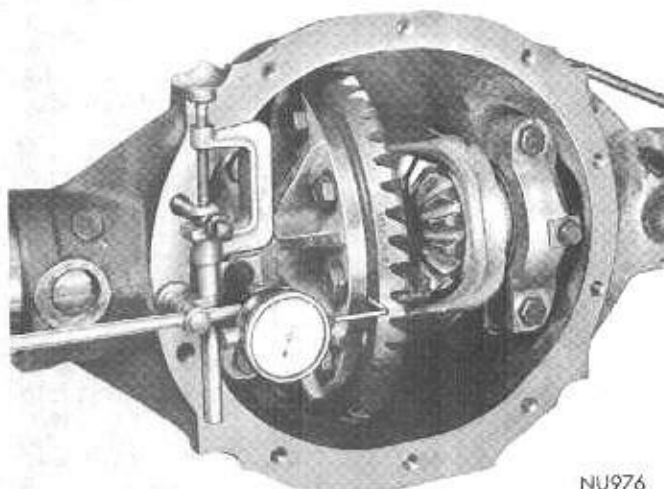

Fig. 9—Measuring Drive Gear Runout
(6) In preparing to measure drive gear runout on differential case, (provided no side play was found) mount a dial indicator tool C-3339 on pilot stud and load the indicator stem slightly when plunger is right angles to back face of drive gear (Fig. 9).
(7) Measure drive gear runout by turning drive